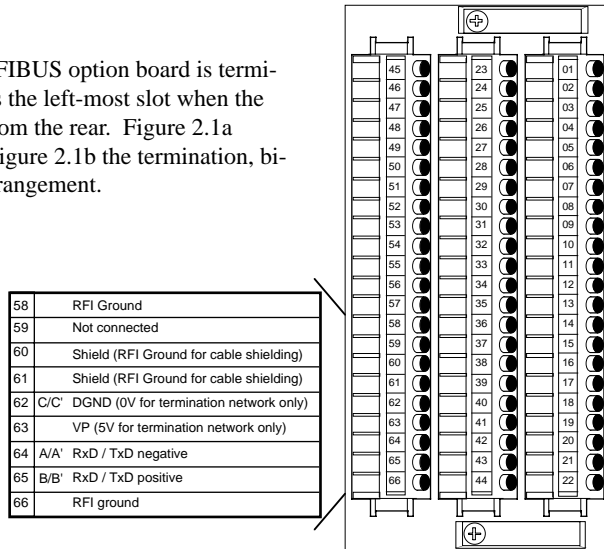
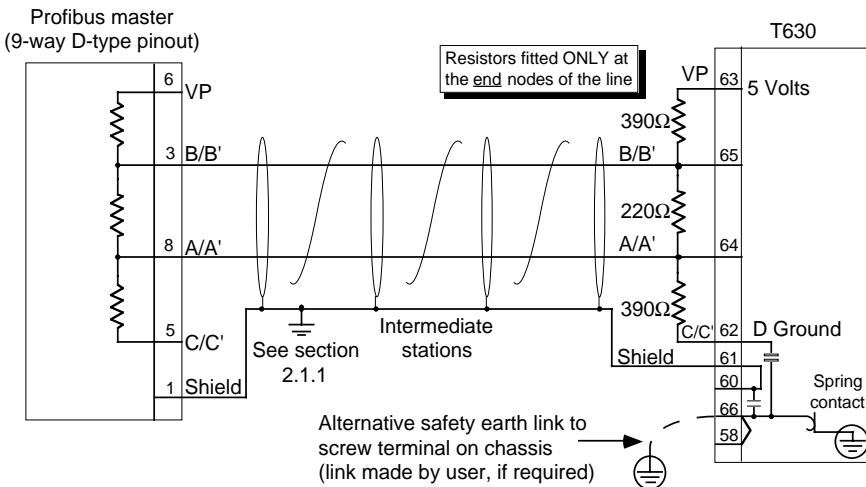

Figure 2.1a Communications Pinout
Figure 2.1b Communications wiring and termination
The wiring to the PROFIBUS option board is terminated at slot 2, which is the left-most slot when the instrument is viewed from the rear. Figure 2.1a shows the pinout, and figure 2.1b the termination, biassing and shielding arrangement.
1. Check wiring, verifying the continuity of A and B connections to the master, and ensure that the correct terminals have been used. Figure 2.1a above, shows the terminations for this unit.
4. Check the communications status word (CS) as described in section 2.2.
8. Ensure that the final node on the transmission line (no matter what type of instrument it is) is terminated correctly using three resistors as shown in figure 2.1b above, and that only the first and final nodes are so terminated. Note that some equipment has built-in pull up and pull down resistors which in some cases can be switched in and out of circuit. Such resistors must be removed or switched out of circuit for all but the instruments at each end of the line.
4. Ensure that the final node on the transmission line (no matter what type of instrument it is) is terminated correctly using three resistors as shown in figure 2.1b above, and that only the first and final nodes are so terminated. Note that some equipment has built-in pull up and pull down resistors which in some cases can be switched in and out of circuit. Such resistors must be removed or switched out of circuit for all but the instruments at each end of the line.